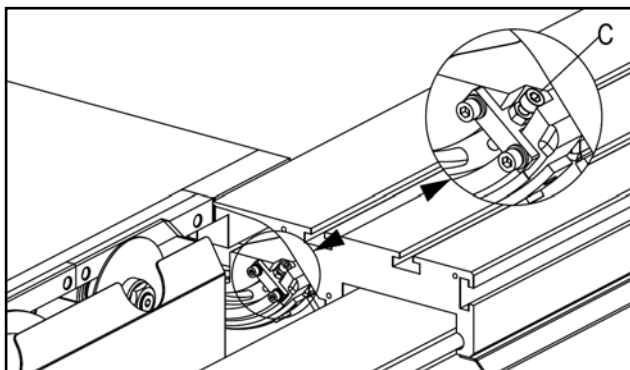

Fig.41
2. Adjusting screw (C), you can change the fixed stop position at 45 degree, as **Fig.41**.